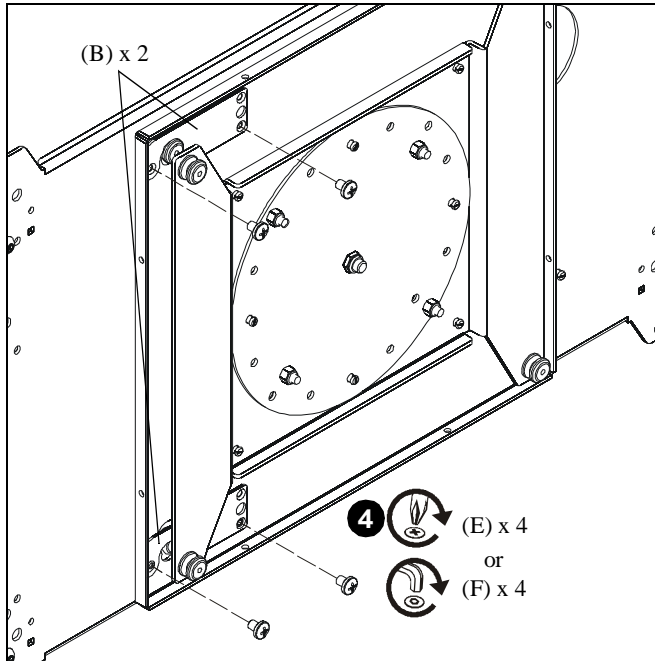

Figure 3
NOTE: Use 10-24 x 1/4" Phillips security screws (D) and security hex key instead of Phillips screws for added security. (See Figure 3)